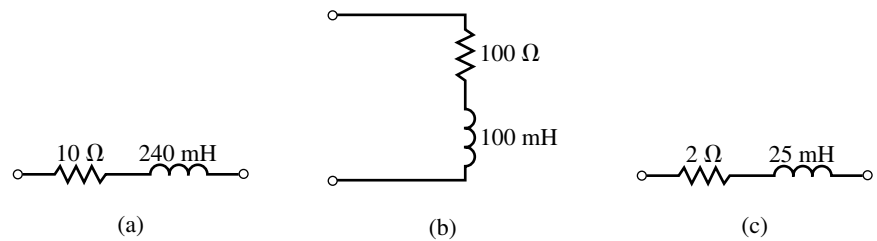

FIGURE 21-58
15. Refer to the series networks of Figure 21-58.